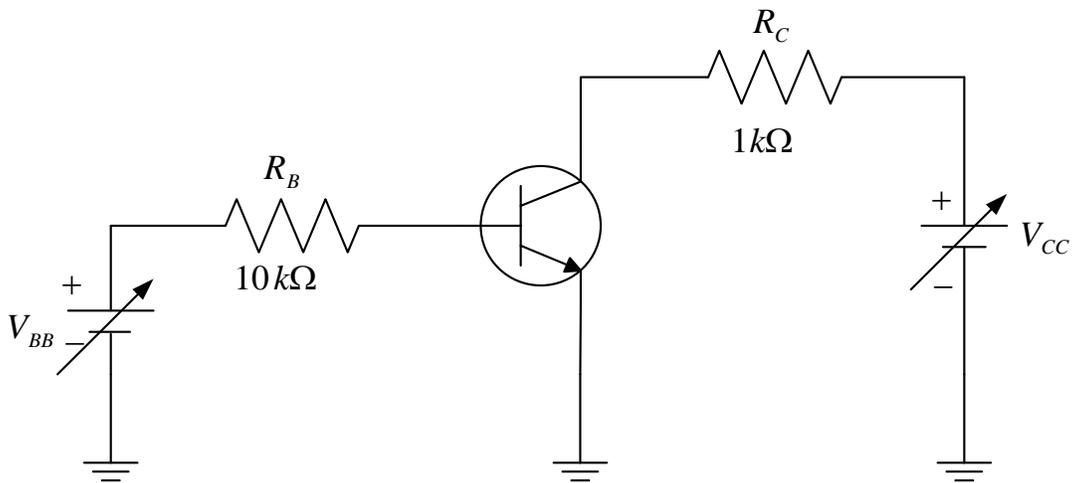

Fig 8.2 Circuit Diagram
1. Connect circuit as shown in Fig 8.2 Set $V_{CC} = 0\text{ V}$.